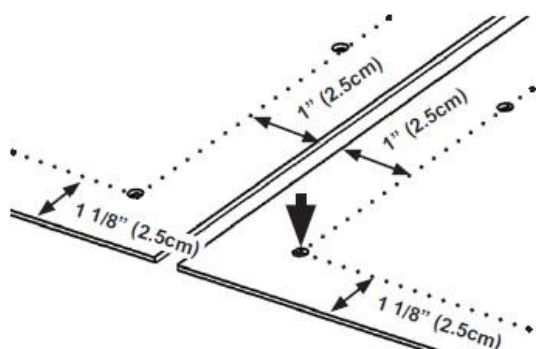

Figure 69
5. To mark the location for the connector bar holes, measure 1" in from each edge to be joined, and mark a line parallel to the cut edges. Figure 69